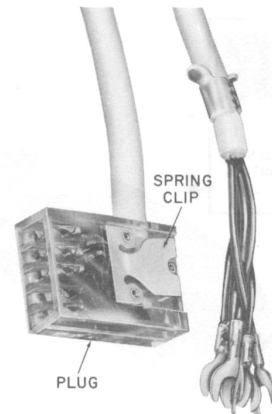

Fig. 7—D5AL Mounting Cord
3.07 Insert the plug end of the D5AL or D5AN mounting cord (Fig. 7) into the jack located on the underside of the base assembly. **Make sure that the spring clip of the plug snaps into place to secure the plug.** Lay the cord in the cord channel and slide the cord retainer over the cord.